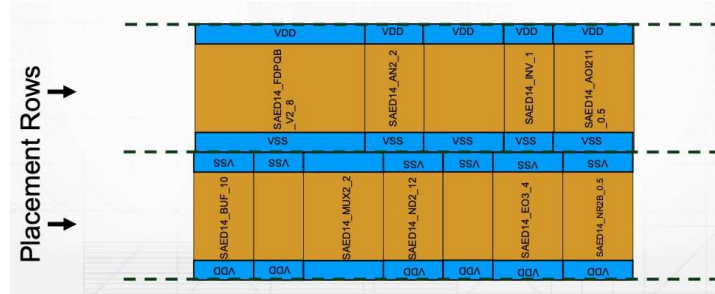

Figure 1. Structure of Placement Rows
- (1) As far as possible, use standard cells from gscLib045. Avoid building cells from the transistor level.
- (2) Design your implementation in a hierarchical manner. This will simplify the work involved, and will allow you to easily split the workload between group members.
- (3) Use only Manhattan geometry for routing, i.e. use horizontal/vertical traces only, do not use diagonal traces.
- (4) Split the workload in a way that all members can work in parallel.
- (5) Keep your design simple and straightforward.
- (6) Use edge-to-edge power rails, size your cells to have consistent height, and lay the cells out in placement rows, as shown in figs. 1 and 2.